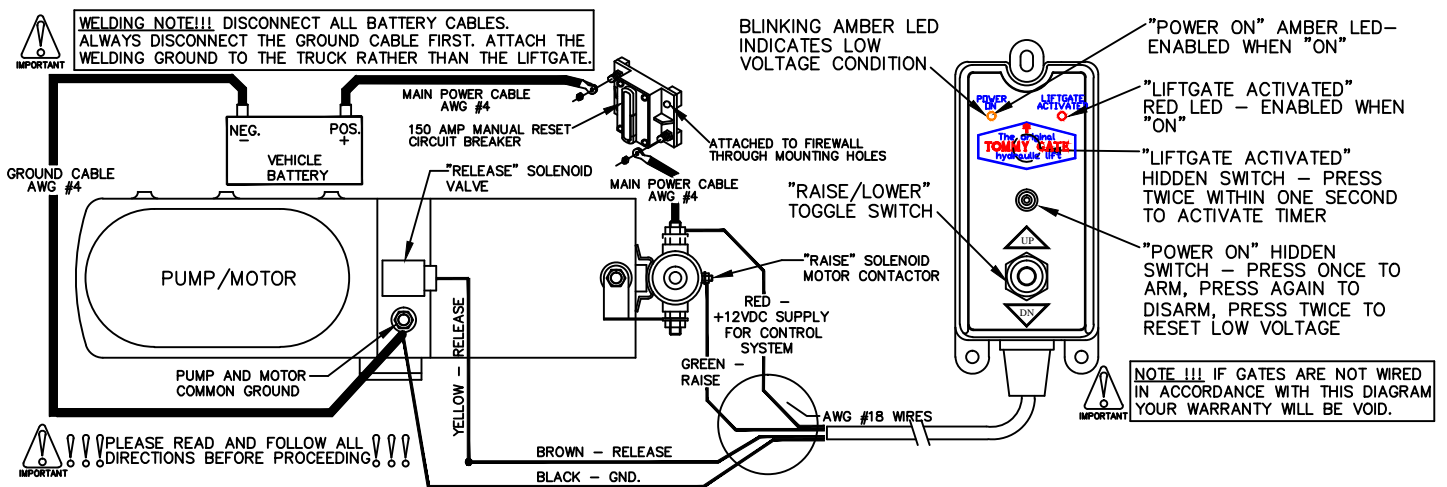

Figure 18: Wiring diagram.
2. **Push** the hidden "Power On" switch (Figure 18). The amber "Power On" LED will illuminate.
12. **Connect** the circuit breaker and battery as outlined in the *Tommy Gate Recommended Electrical Wiring Guidelines* and wiring diagram (Figure 18).